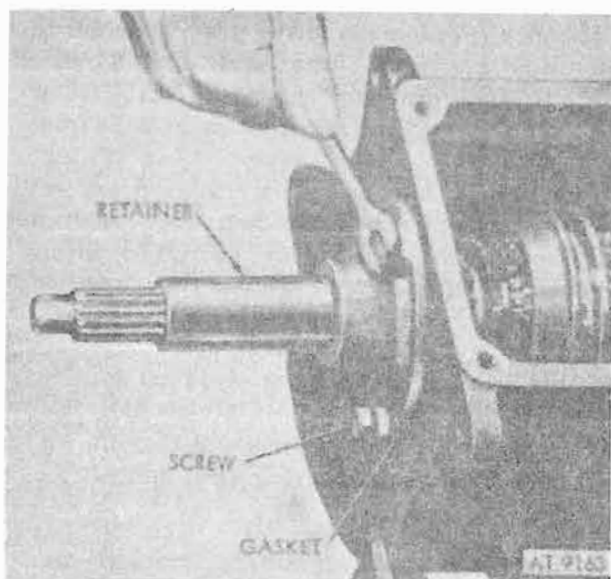

Figure 8-30. Input shaft retainer.
- c. Remove three input shaft bearing retainer screws and washers and then remove input shaft retainer and gasket from transmission case (fig. 8-30).